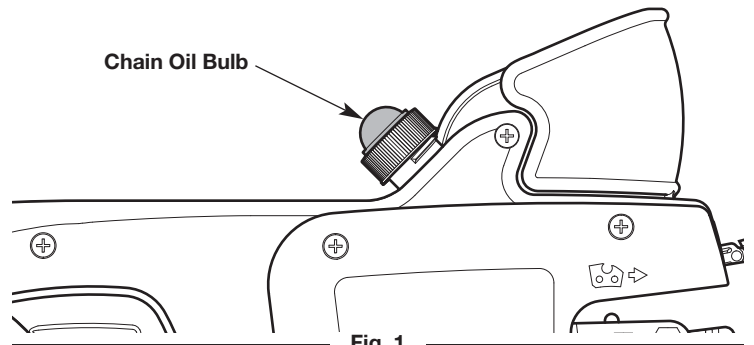

Fig. 1
3. Press the chain oil bulb to oil the guide bar and saw chain (Fig. 1).